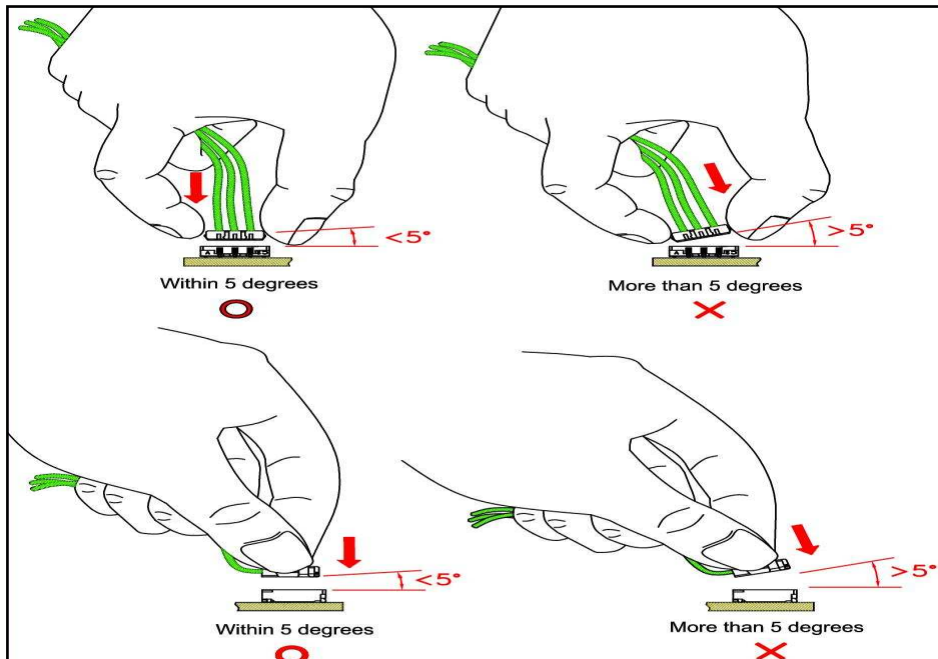

figure 3.1
3.1 During mating process, if incase the Housing is angle mated towards the wafer of mating entrance In allow angle must not exceed 5°. (see figure 3.1)